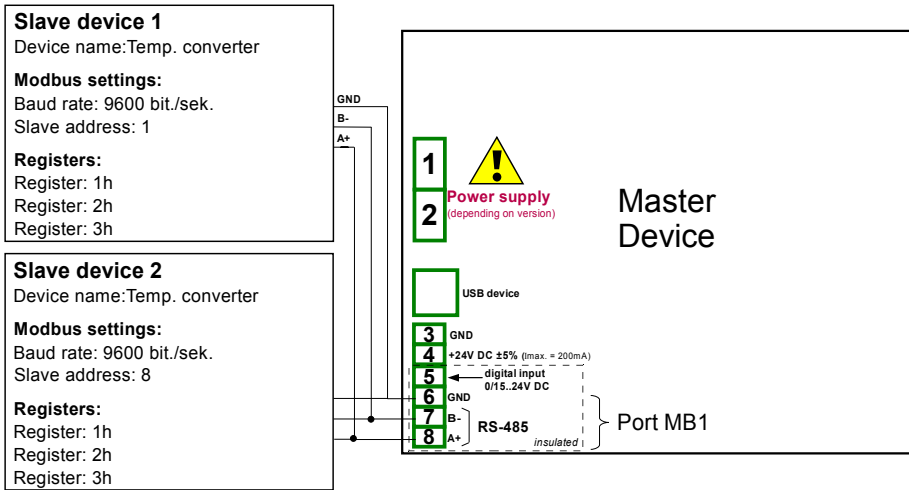

Fig. 7.101. Connection diagram for the Modbus port MB1
First configure the device then connect the SLAVE device to the device (in accordance with Fig. 7.101).
- using the arrows in the upper right corner to select the communication port, such as 1 (**Port number**: 1, MB1 in accordance with Fig. 7.101)